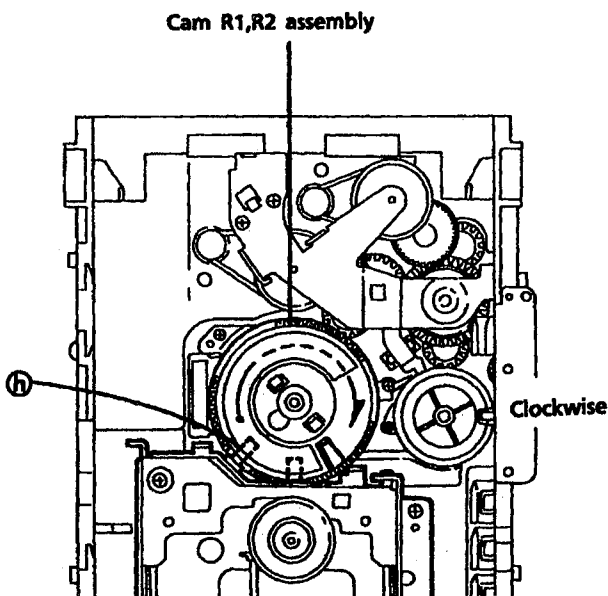

Fig. 30
1. If CD mech. is removed without disassembling CD mech. ass'y, rotate the Cam R1, R2 ass'y clockwise to set the CD mech. ass'y's shaft(L) as shown in Fig. 30.